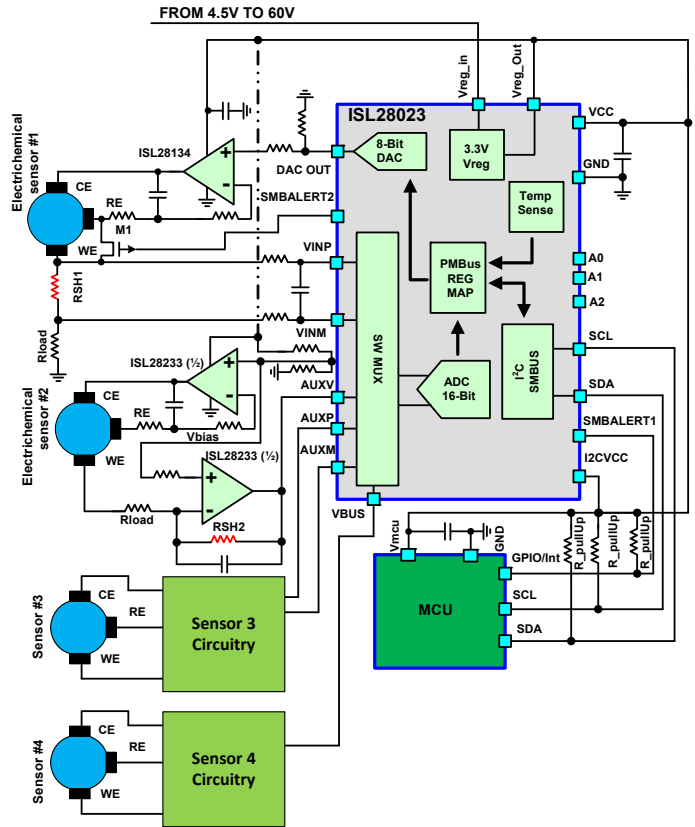

FIGURE 22. A SIMPLIFIED SCHEMATIC FOR GAS SENSING
The ISL28023 is a full featured digital power monitor that has a DAC, ADC and alert comparators. The ISL28023 reduces to an I²C ADC/DAC with alerts. The simplified circuit in Figure 22 is a four element gas sensor.
Most electrochemical sensors are nonbiased (do not require an activation voltage). In the case of measuring a gas concentration using a biased sensor, the ISL28023 has an internal 8-bit DAC with many voltage ranges to bias the sensor. The electrochemical sensor 1 in Figure 22 is a biased sensor. The sensor is biased via the internal DAC and the ISL28134. The ISL28134 is a low noise, zero offset chopper stabilized amplifier. The amplifier is used to ensure the solution potential is equal to the DAC output voltage versus current change. The electrochemical solution (electrolyte) between the Counter Electrode (CE) and the Working Electrode (WE) has an impedance. As the concentration of the selective gas increases, more current flows. The increased current flow with electrolyte resistance changes the potential between the WE and CE electrodes. The resultant is a less than predictable conversion of gas concentration to current flow. The Reference Electrode (RE) is an electrode that monitors the solution potential.